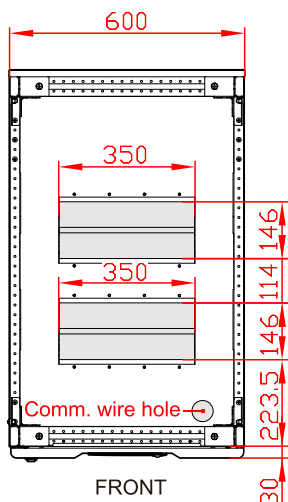
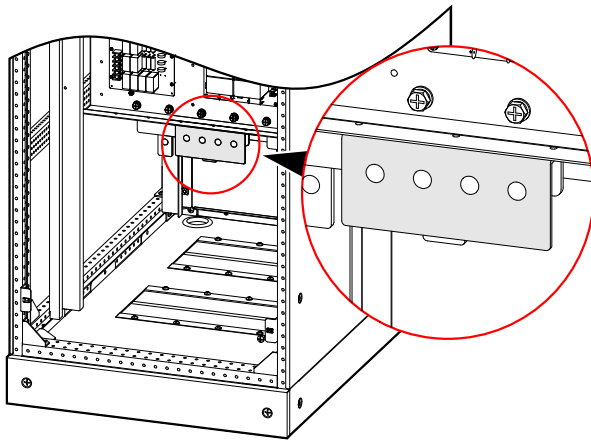
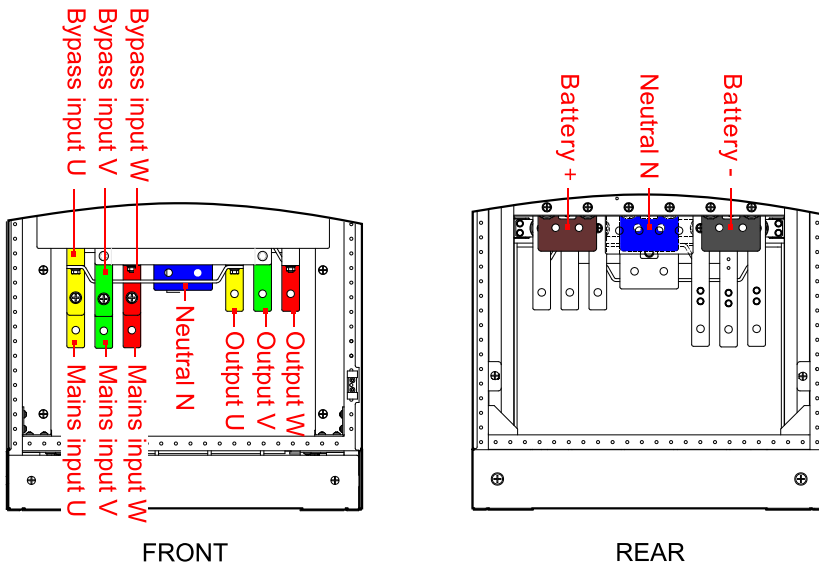

Figure3-34 Wire inlet and outlet hole of down wiring of IST7-160, IST7-200
Figure3-35 PE position of IST7-160, IST7-200
Figure3-36 Wiring terminals bars diagram of IST7-160, IST7-200
Step 2 Lead the input cables, output cables, battery cables and PE go through the top wiring hole(the position of wire inlet and outlet holes as shown in Figure3-34), and connect the wiring terminal respectively(the wiring terminal as shown in Figure3-35, Figure3-36), then fasten the bolts.